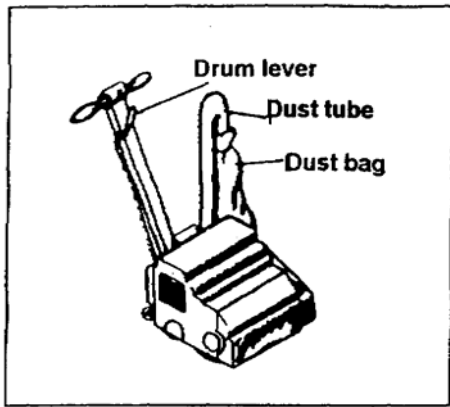

Figure 3-16. Drum floor sander
(4) Drum floor sander. The drum floor sander (Figure 3-16) uses an abrasive belt that is similar to the belt sander. It is used to sand new or painted wood floors; however, because of its size, the drum floor sander cannot sand close to walls and in corners. The only maintenance required on this machine is to occasionally blow compressed air through the motor and replace the belt when it becomes worn.